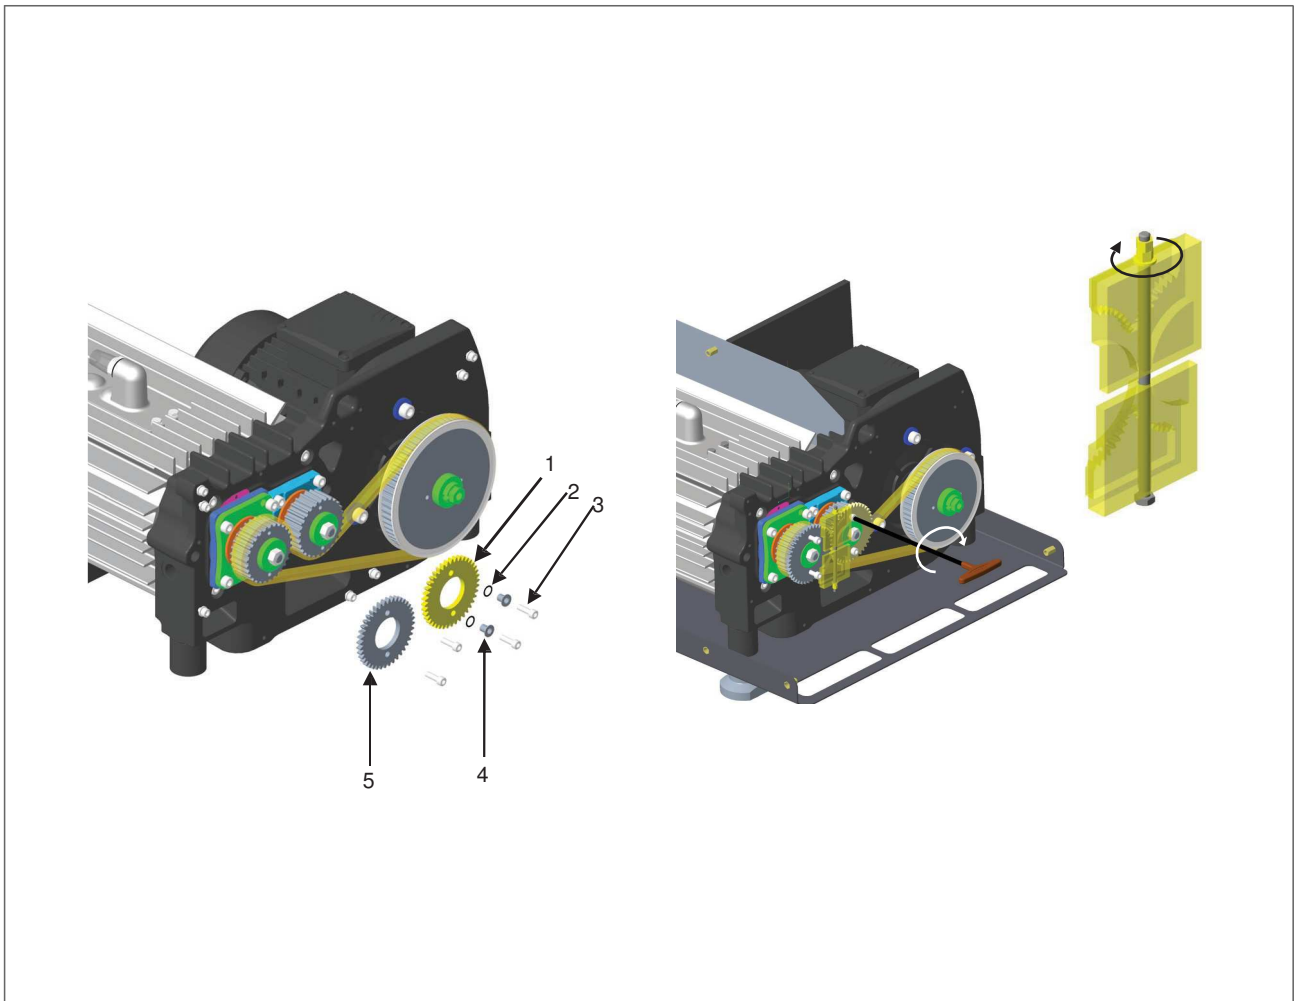

Figure 11 – Fail safe gear assembly
1. Assemble fail-safe gears and other all necessary parts back to original position in reverse order of disassembly, check status of fail-safe gear NR Polyamid (Figure 11, Item 1) and change it in case of necessary.